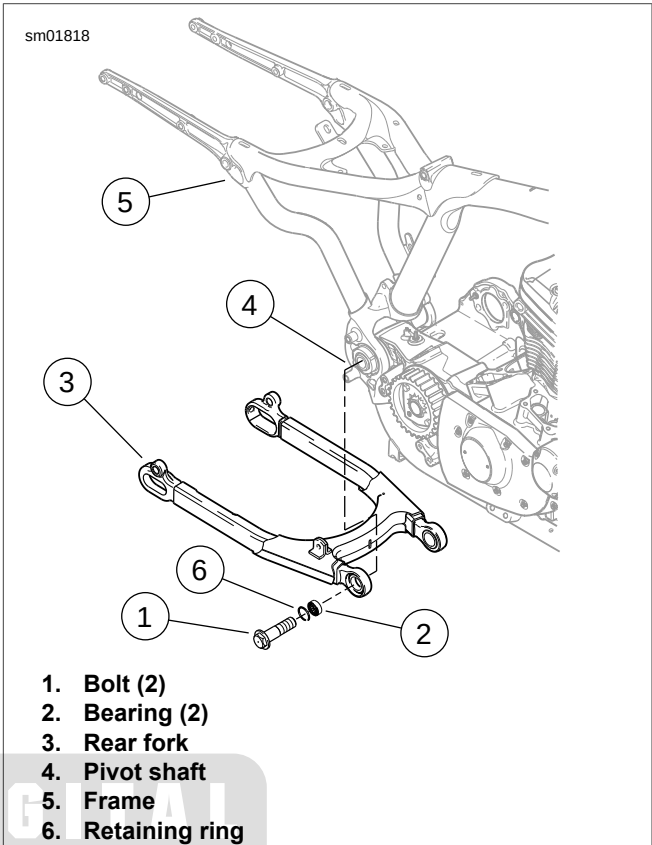

Figure 2-162. Rear Fork Assembly
13. See Figure 2-162. Support rear fork (3). Remove rear fork/engine mount bolts (1) and pull fork assembly from frame.
See Figure 2-162. Remove pivot bearings (2) only if replacement is required.
- 4. See Figure 2-162. Make sure pivot bearing retaining ring (6) is not bent or damaged. If it is, replace it with a **new** retaining ring.
- 5. Make sure retaining ring is fully seated in the groove in each bearing (2).
- 6. Check that rear fork (3) is not bent, twisted or cracked. Replace as necessary.
- 1. See Figure 2-162. If necessary, press **new** bearings (2) into position in rear fork, using BEARING REMOVER/INSTALLER TOOL (Part No. HD-46281):
- 2. See Figure 2-162. Holding rear fork assembly in position, install rear fork/engine mount bolts (1). Tighten to 60-70 ft-lbs (81.4-95.0 Nm).